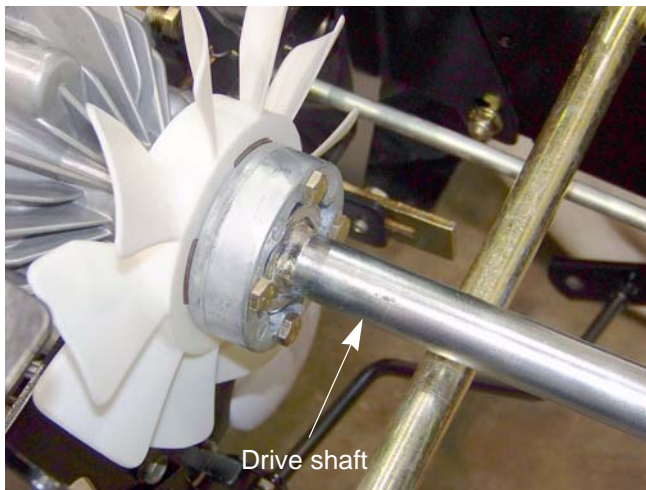

Figure 8.33
10. Remove the four bolts that connect the drive shaft to the hydro pump. See Figure 8.33.
12. Remove the four bolts that connect the drive shaft to the hydro pump. See Figure 8.33.